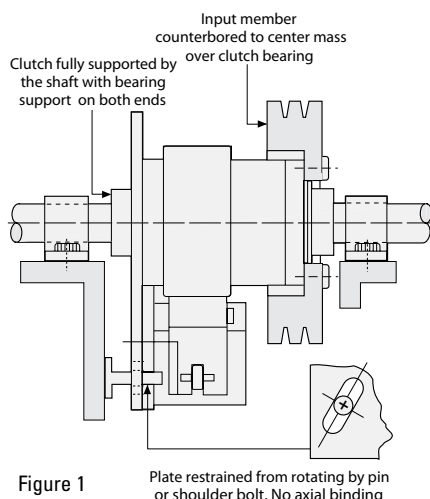
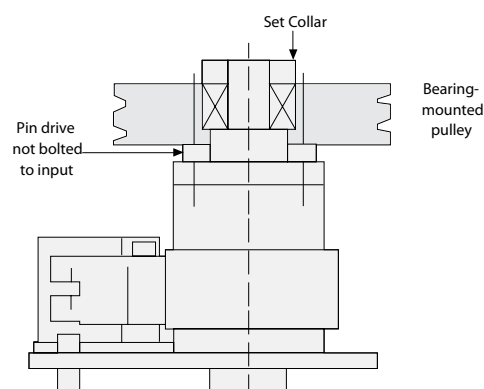

Figure 1
Figure 2
All Genuine Wrap Spring clutch products are designed for parallel shaft applications where they are fully supported by the shaft on which they are mounted. In the case of wrap spring clutch/brakes (CB) the through shaft is always the output. Connecting the parallel shaft to the CB input can be accomplished by use of a belt, chain or gear drive. CB models must be mounted with the shaft(s) in a horizontal position (Figure 1). If vertical mounting is required, see Figure 2.
See Figure 2 note.
Figure 1 - Shows an ideal CB mounting. The unit is locked to the output shaft with a key and set screws. The mounting plate is restrained from rotating with a pin, but is not restrained axially, reducing the load on the CB's internal plate bearing.
Figure 2 - When applying a wrap spring vertically, the mating drive member (pulley, sprocket, or sheave) must be bearing-supported as shown in Figure 2. This is necessary to eliminate the axial loading that will occur from the weight of the mating drive member (pulley, sprocket or sheave).
Illustrate how proper support can be provided. Input members are generally face-mounted to the input hub of the unit as shown on Figure 1. This is facilitated by drilled and tapped holes provided in the free hub flange.